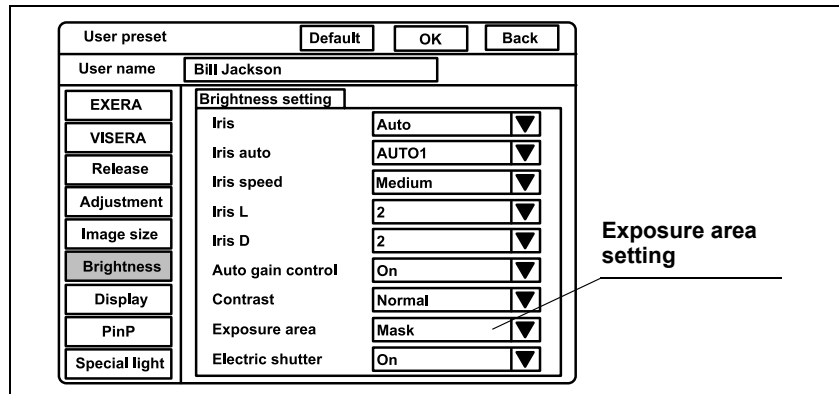

Figure 9.29
1. Click “▼” of “Exposure area” (see Figure 9.29). The exposure areas appear in the pull-down menu.